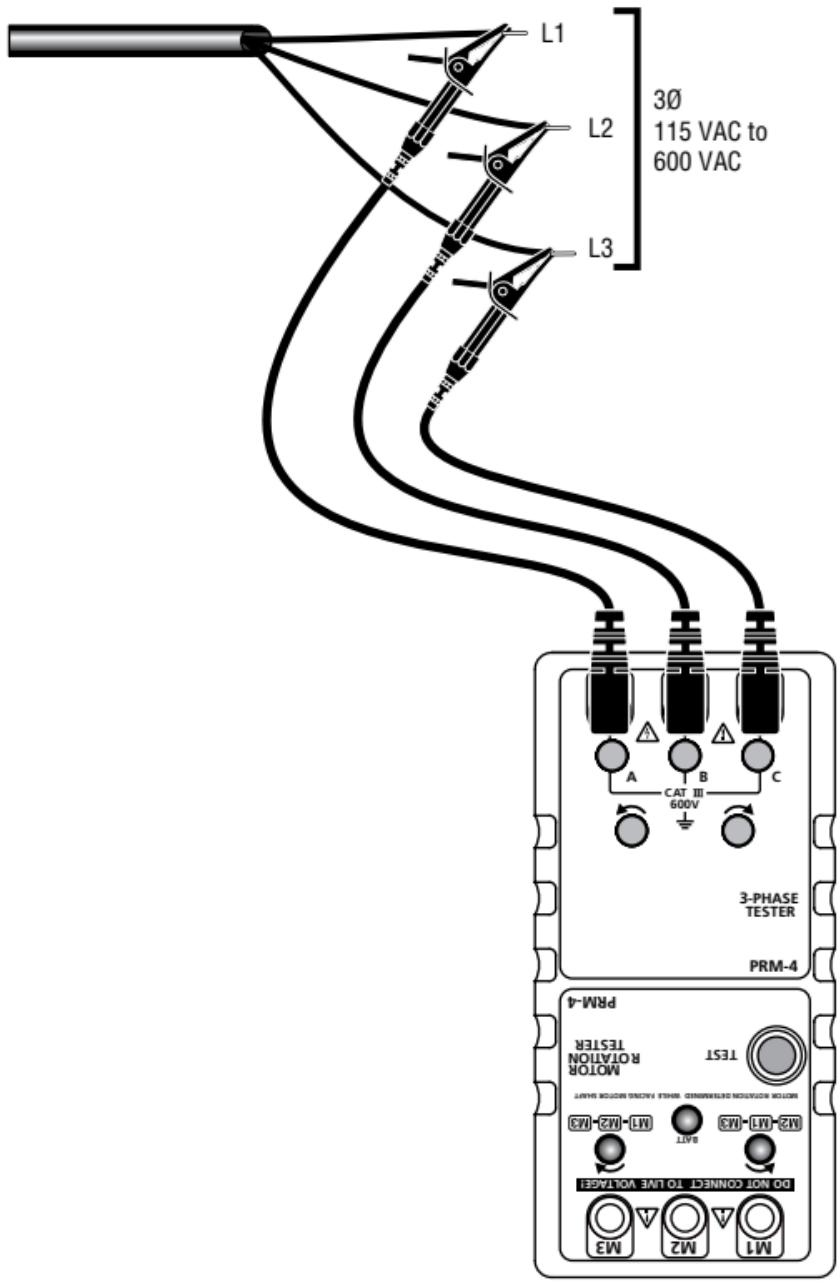

Figure 1
1. Connect the three color coded test leads to the 3-phase input terminals, L1-L2-L3 also known as A-B-C or R-S-T. See Figure 1.